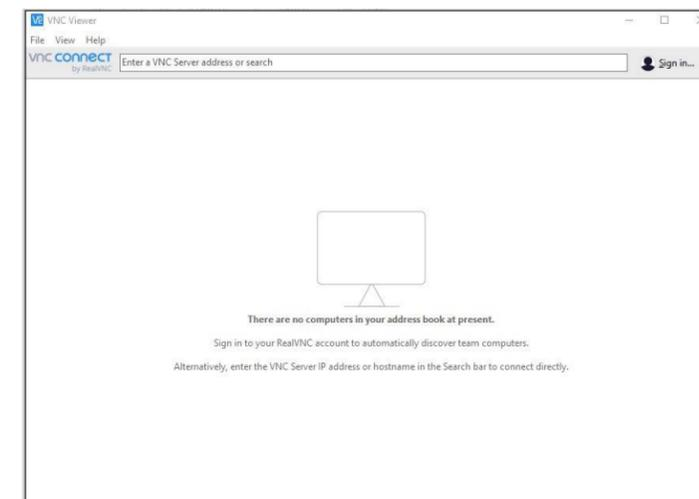

Figure 71. Open VNC Viewer on computer
2. Start the VNC Viewer (Figure 71).